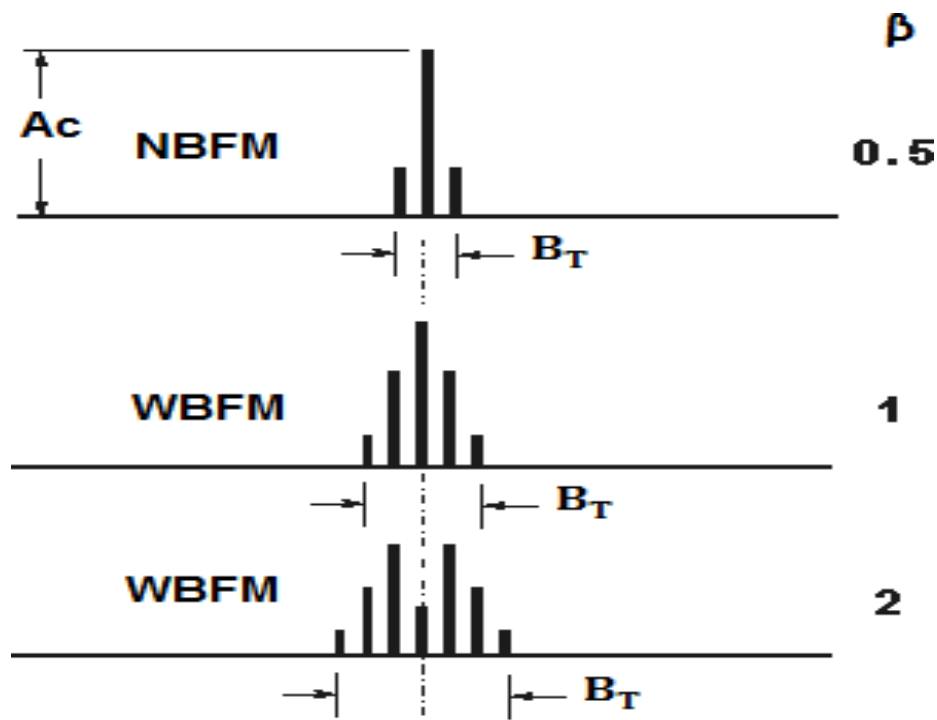

Figure.3: FM signal types
2. Model the PLL demodulator illustrated in Figure 3.